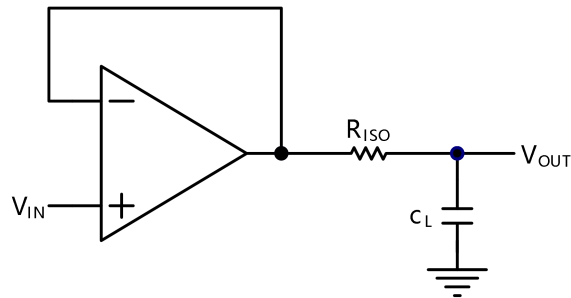
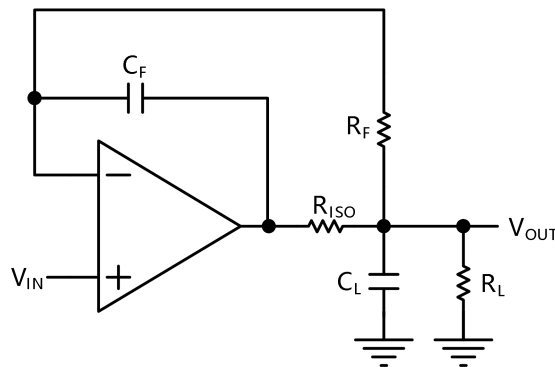

Figure 2. Indirectly Driving a Capacitive Load Using Isolation Resistor
Figure 3. Indirectly Driving a Capacitive Load with DC Accuracy
The CBM833X family is optimized for bandwidth and speed, not for driving capacitive loads. Output capacitance will create a pole in the amplifier's feedback path, leading to excessive peaking and potential oscillation. If dealing with load capacitance is a requirement of the application, the two strategies to consider are (1) using a small resistor in series with the amplifier's output and the load capacitance and (2) reducing the bandwidth of the amplifier's feedback loop by increasing the overall noise gain. Figure 2. shows a unity gain follower using the series resistor strategy. The resistor isolates the output from the capacitance and, more
The circuit in Figure 3 is an improvement to the one in Figure 2. R_F provides the DC accuracy by feed-forward the V_{IN} to R_L . C_F and R_{ISO} serve to counteract the loss of phase margin by feeding the high frequency component of the output signal back to the amplifier's inverting input, thereby preserving the phase margin in the overall feedback loop. Capacitive drive can be increased by increasing the value of C_F . This in turn will slow down the pulse response.